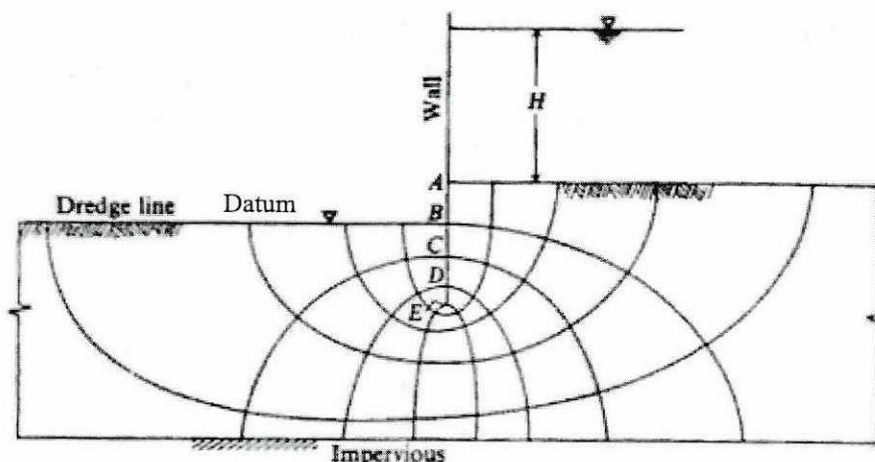

Figure Q1.1: The schematic diagram of the sheet pile wall
Q1 A sheet pile is primary used to provide lateral support for water retention in the clay soil as shown in **Figure Q1.1**.
- (i) The pore water pressure distribution values that appear on the upstream face of the sheet pile depends on certain factors. Describe **TWO (2)** factors that affects the pore pressure distribution. (4 marks)
- (b) In addition to the construction of the sheet pile as shown in **Figure Q1.1**, the soil at the downstream of the sheet pile wall was slightly dredged below the original level. The height of the water behind the sheet pile wall, H is 8 meters in height. The coefficient of permeability of the soil sandy clay beneath is $k = 4 \times 10^{-5}$ m/s and has a saturated unit weight, γ_{sat} of 18.50 kN/m^3 . The dimensions of the structure with reference to the diagram are $AB = 2 \text{ m}$, $BC = 2 \text{ m}$, $CD = 1.5 \text{ m}$ and $DE = 1 \text{ m}$.